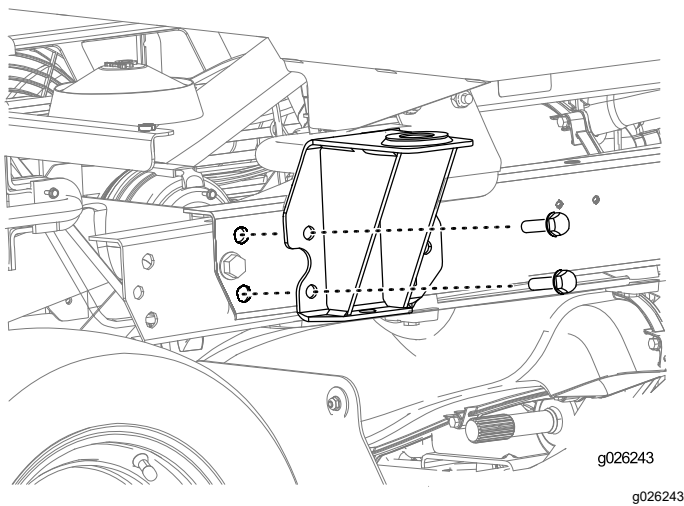

Figure 25
1. Install the rear brackets on the machine (Figure 25) using the hardware removed from the ROPS in Removing the ROPS Assembly (page 5).